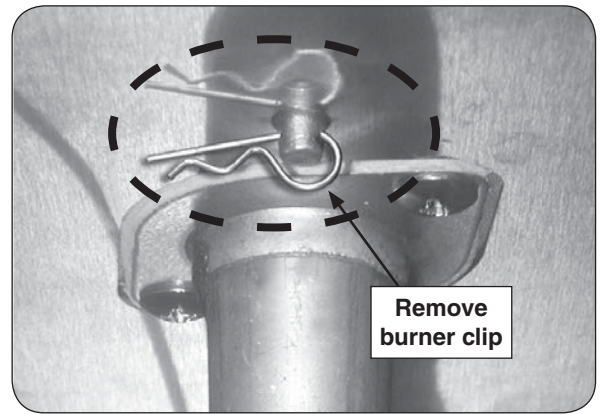

Fig. 30-1 Remove burner clip
3. Reach up under the burner support and remove the burner retaining clip (see Fig. 30-1), located at the rear of the burner pipe.
7. Replace the burner retaining clip (underneath burner). Reference Fig. 30-1.